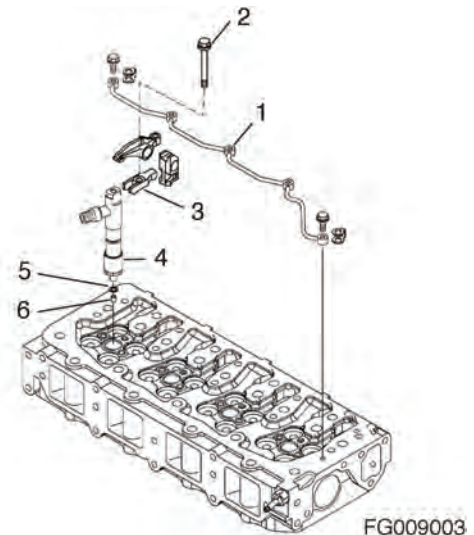

Figure 292
1. Reinsert a new nozzle seat (6, Figure 292) and nozzle protector (5, Figure 292) in the cylinder head for each injector.
3. Reinsert each fuel injector (4, Figure 292) into the cylinder head.
4. Reinstall the fuel injector retainers (3, Figure 292) and torque the retaining bolts (2, Figure 292) to specification.